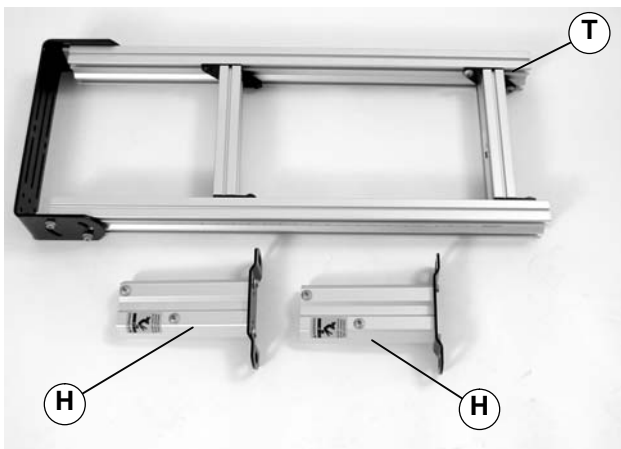

Figure 11
1. Typical components (Figure 11).